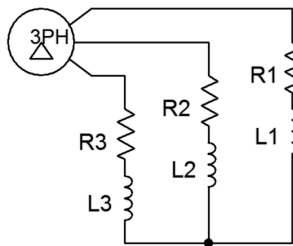

Figure 9.8
15. A 208 3-phase Δ connected generator feeds a Y connected load consisting of 3 legs of 10Ω in series with $j4 \Omega$ of inductive reactance as shown in Figure 9.8. Find the voltage across each load leg, the current through the wires connecting the load to to the generator, and the apparent and real powers drawn by the load.
16. Given the delta-wye system of Figure 9.8, if the line voltage is 400 volts and the load is balanced with each leg at $120 + j30 \Omega$, determine the line current, generator phase current, load current, the voltage across each load leg, and the total real and apparent load powers.